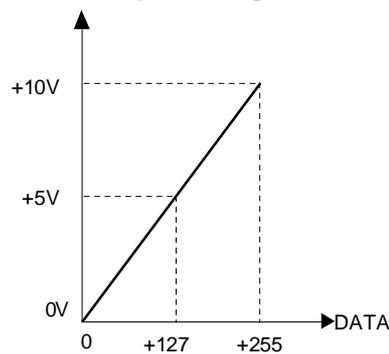

Fig. 2
- 2) Speedometer data and load meter data carries out the D/A output in Fig. 2 below.